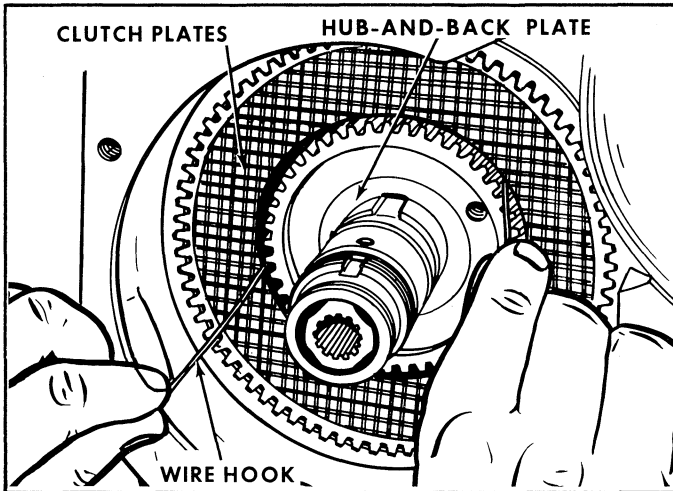

Figure 27. Removing the Clutch Plates from the Hub-and-Back Plate.
D. Remove the spring retainer and the release springs from the clutch piston and the piston carrier. Gently tap the piston from the carrier. Remove the two locating pins from the carrier. Remove the two roll pins (fig. 59, 34) and the two headless-flat-point setscrews (33) from the carrier only if replacement of parts is necessary. Remove the piston ring (21) and the seal ring (23) from the piston carrier. Discard the rings. (See figure 27).